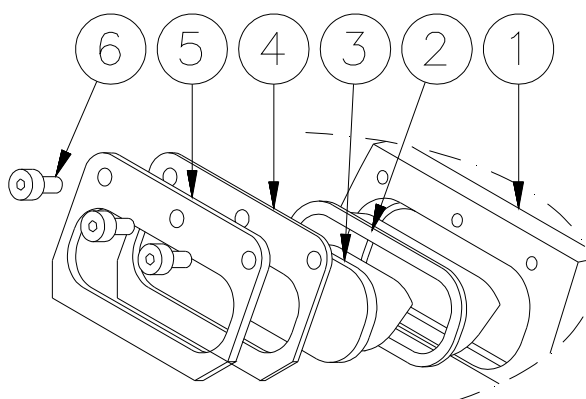

Figure 25 – Prism Gasket
- prism gasket mounted between prism and dome (Figure 25- n°2).